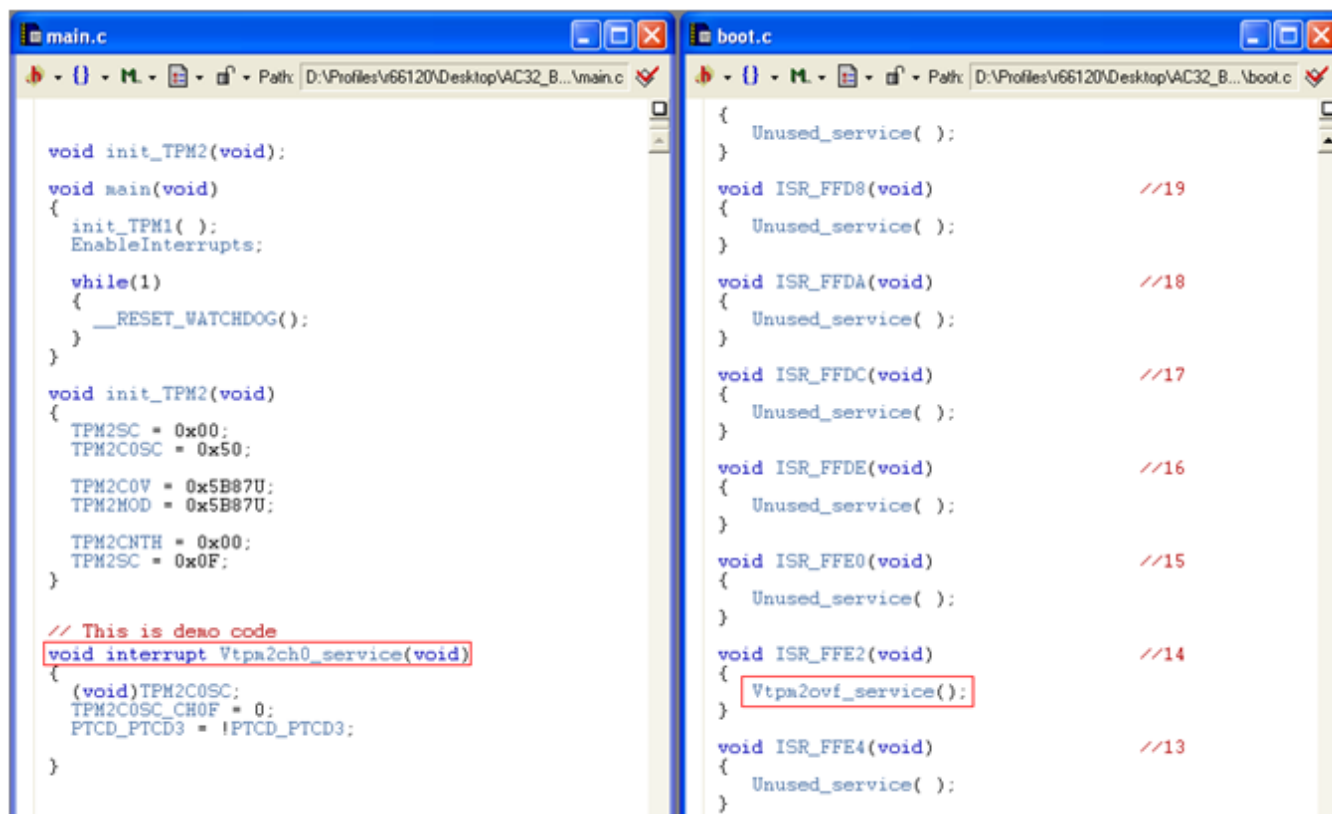

Figure 7. Vector Remap
Step 5: If any interrupt is used, remap the interrupt service routine in boot.c. Refer to Figure 7. Vector Remap.